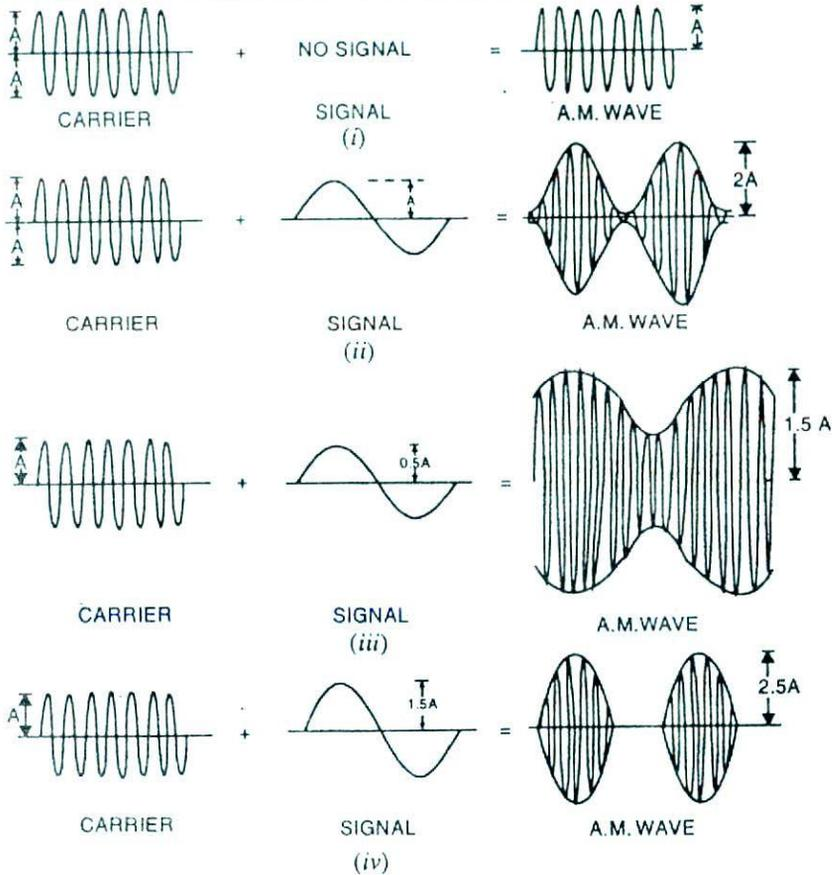

Fig. 18.3
The value of modulation factor depends upon the amplitudes of carrier and signal. Fig. 18.3 shows amplitude modulation for different values of modulation factor  $m$ .
(i) When signal amplitude is zero, the carrier wave is not modulated as shown in Fig. 18.3 (i). The amplitude of carrier wave remains unchanged.
(ii) When signal amplitude is equal to the carrier amplitude as shown in Fig. 18.3 (ii), the amplitude of carrier varies between  $2A$  and zero.
(iii) When the signal amplitude is one-half the carrier amplitude as shown in Fig. 18.3 (iii), the amplitude of carrier wave varies between  $1.5A$  and  $0.5A$ .
(iv) When the signal amplitude is 1.5 times the carrier amplitude as shown in Fig. 18.3 (iv), the maximum value of carrier wave becomes  $2.5A$ .
**Importance of modulation factor.** Modulation factor is very important since it determines the strength and quality of the transmitted signal. In an AM wave, the signal is contained in the variations of the carrier amplitude. When the carrier is modulated to a small degree (*i.e.* small  $m$ ), the amount of carrier amplitude variation is small. Consequently, the audio signal being transmitted will not be very strong. The greater the degree of modulation (*i.e.*  $m$ ), the stronger and clearer will be the audio signal. It may be emphasised here that if the carrier is overmodulated (*i.e.*  $m > 1$ ), distortion will occur during reception. This condition is shown in Fig. 18.3 (iv). The AM waveform is clipped and the envelope is discontinuous. Therefore, degree of modulation should never exceed 100%.